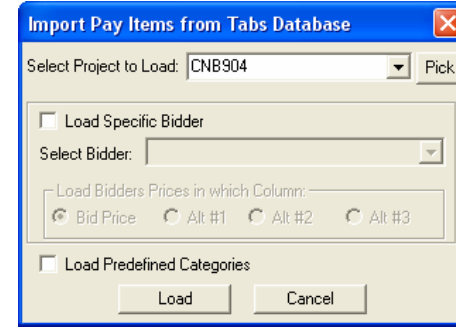

Figure 2.7
*Overview:* This option is used to load a list of pay items and quantities from an old project currently existing in *BidTabs Professional*. This is useful to perform post bid analysis on old projects. The information loaded from *BidTabs Professional* includes: Pay Item Number, Description, Bid Quantity, and Unit Description. You can also load a specific contractor's prices from a specific job and include predefined pay item categories for each item as well. After selecting this option, you will see the screen shown in Figure 2.7.